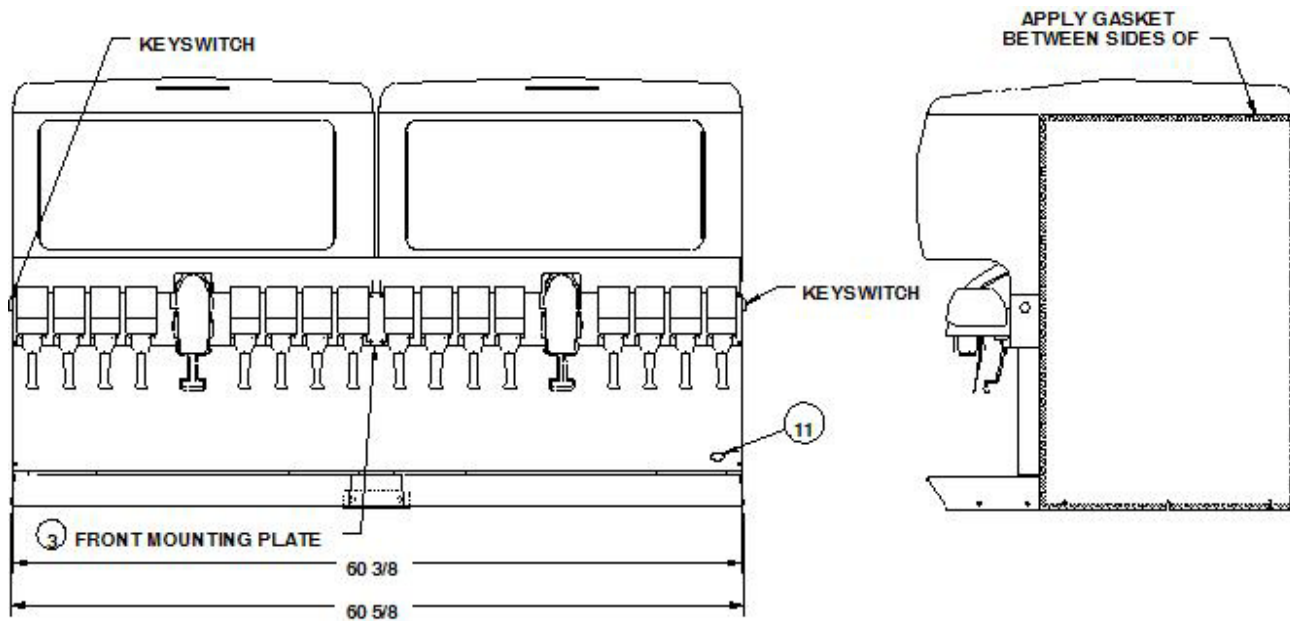

Figure 1.
- F. Move black and red wires from left to right side of the beverage panel. Strip red/black wires and reconnect to the key switch using wire connectors (item 4) provided.
4. Apply self-adhesive gasket material (item 7) to the side of one Unit as indicated in Figure 1. Ends of the gasket should fit tight to each other.